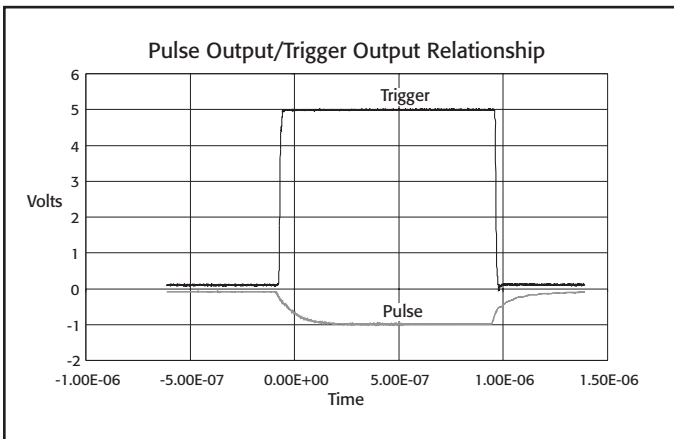

Figure 3
physics of the connections to the device. Keithley's optoelectronics applications engineers have addressed these issues by studying and documenting the optimum cable configuration to enhance measurement accuracy with extremely fast pulses. **Figure 3** illustrates the results of a typical pulse LIV sweep test with the Model 2520. In this test, a 100-point pulsed LIV sweep using a  $1\mu\text{s}$  pulse width, at 1% duty cycle, was completed in just 110ms (including data transfer time), several orders of magnitude faster than existing, semi-custom test systems.
**Figure 3.** This plot illustrates the Model 2520's pulsed LIV sweep capability. The sweep was programmed from 0 to 100mA in 1mA steps. Pulse width was programmed at  $1\mu\text{s}$  at 1% duty cycle, providing for a complete sweep in just 10ms (excluding data transfer time).
**Pulse Trigger Out BNC:** +5V, 50Ω output impedance, output trigger corresponding to current source pulse; pulse to trigger delay <100ns. See Figure 3.